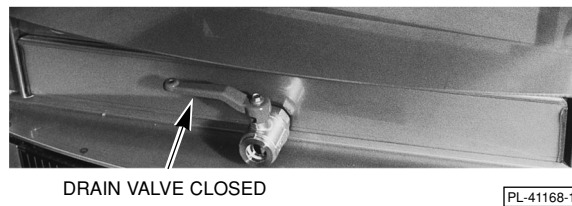

Fig. 9
3. Close drain valve when empty (Fig. 9).